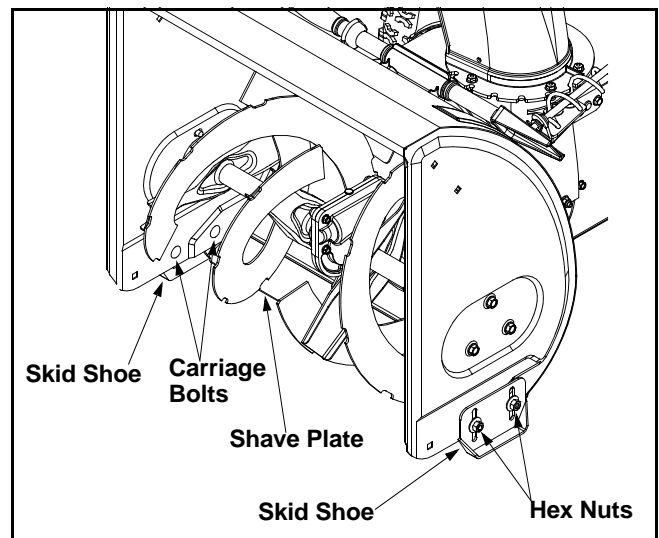

Figure 26
- To remove skid shoes, remove the four carriage bolts, cupped washers and hex nuts which attach them to the snow thrower. Reassemble new skid shoes with the four carriage bolts, cupped washers (cupped side goes against skid shoes) and hex nuts. See Figure 26.